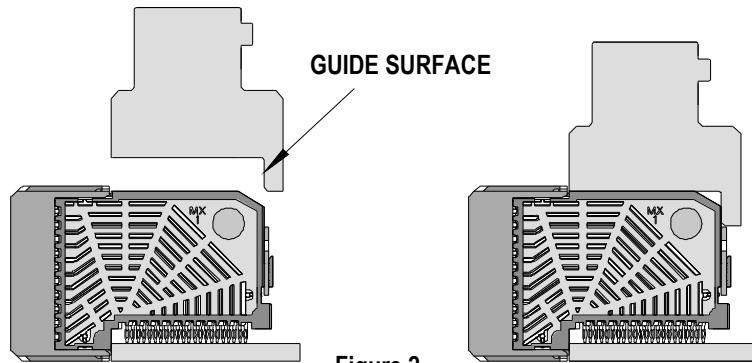

Figure 2
2. Place the application tool on top of the module with the back guide surface of the tool against the back of the module. See Figure 2.